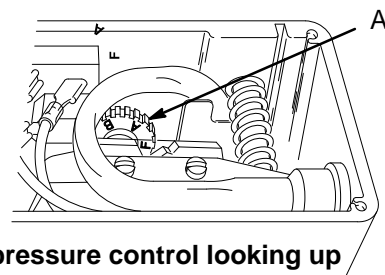

Fig. 9
**NOTE:** Do not alter this adjustment if the wheel is already set as shown in Fig. 9.
2. Set the white differential wheel (A) on the micro-switch. Turn the wheel so the letter **F** is concealed behind the switch and the letter **A** is the first letter seen. See Fig. 9.